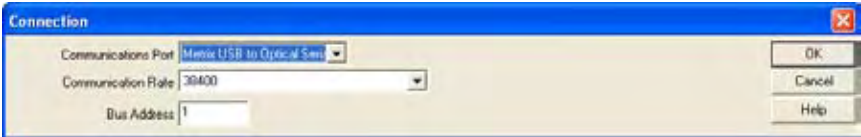

Figure 8-6
**NOTE:** If a connection has not been previously established, the Communication dialog box will appear (see Fig. 8-6).